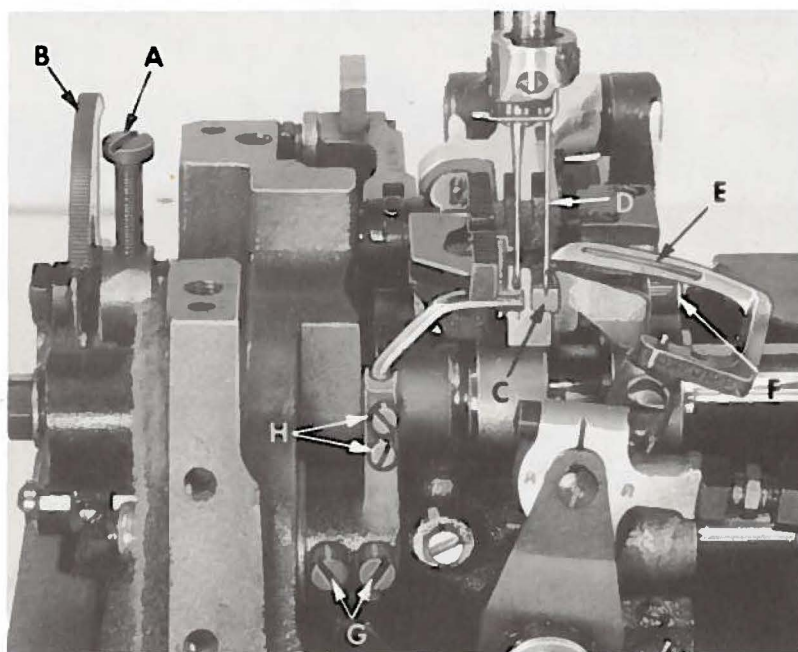

Fig. 10
The differential feed ratio is set by loosening screw (A, Fig. 10) and moving the selector slide (B) to the desired position. The screw and selector slide are accessible through the top of the cloth plate on the left side. Moving the differential feed selector slide (B) toward the front increases the amount of differential and moving it back decreases the differential feed. Retighten screw.
Set the rear needle guard (C, Fig. 10) horizontally so that it does not quite contact the rear of the right needle (D) when at its most forward point of travel. A clearance of .005 inch is permissible. It should be set as low as possible, yet have its vertical face approach within about 3/64 inch of the needle, until the point of the looper (E), moving to the left, is even with the needle. To move needle guard merely loosen screw (F), move needle guard as required, and retighten screw.
Set the front needle guard so that it pushes the left needle back toward the path of the looper as it moves behind the needle. The looper may brush but not pick at the left needle. It should be set as low as possible, yet have its vertical face push the left needle until the point of the looper is just past the left side of the left needle. The front needle guard should not contact the rear needle guard or right needle at any time. To move guard forward or backward, merely loosen screws (G, Fig. 10) move needle guard as required and retighten screws. To raise, lower or rotate needle guard, loosen screws (H), move guard and retighten screws after guard is properly set.